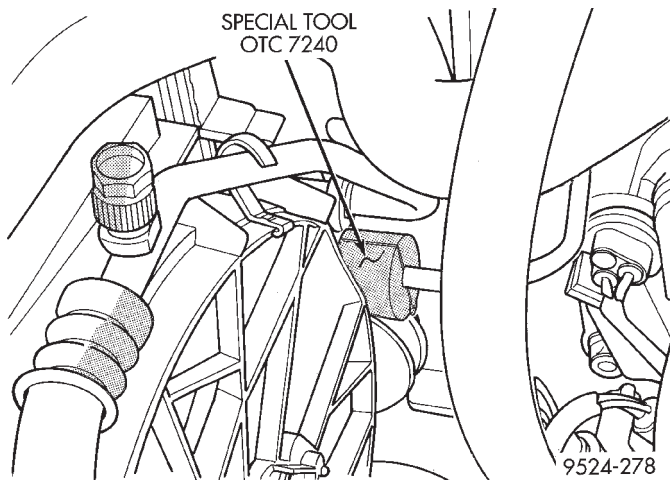
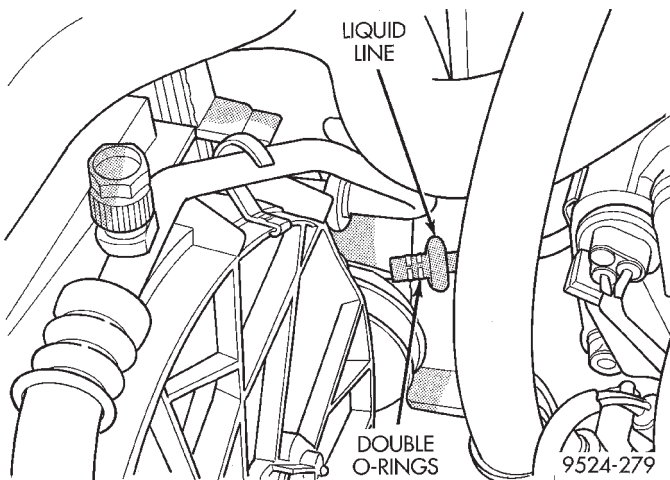

Fig. 62 Quick Coupler Using Special Tool 7240
Fig. 63 Line At Condenser
- (3) Disconnect quick connector at condenser. Remove liquid line from condenser. Use special tool kit 7193 to disconnect quick connector (Fig. 62). Remove line at condenser (Fig. 63).